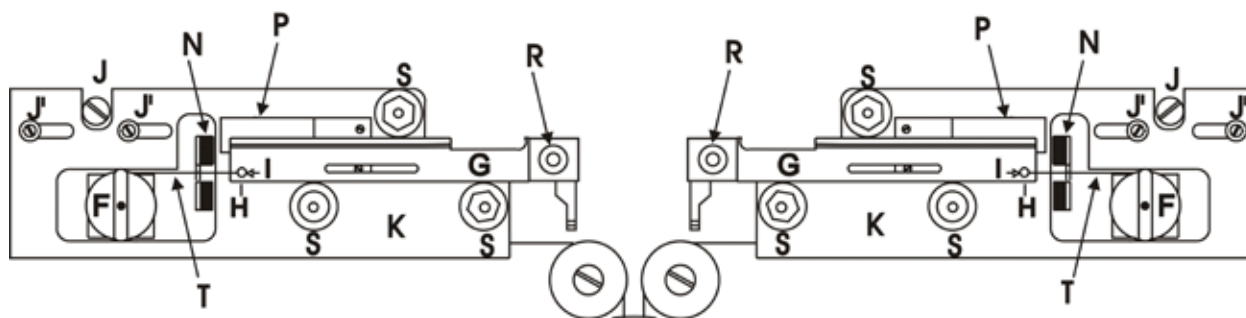

Figure 1-2. Upper Cable Pulley Assembly
| Figure 1-2. Upper Cable Pulley Assembly .....                         | 3 |
This assembly conducts the PULLING CABLES (item **T** in **Figure 1-2**) from the PULLER BARS (**G**) to the centrally located (and concealed) LOWER CABLE PULLEY ASSEMBLY. Note that the UPPER CABLE PULLEY ASSEMBLY is attached to its panel by two screws, in slots (**J'**), and contains a large eccentric adjustment screw (**J**). This eccentric screw is used to adjust cable “tension”. Its use is covered in the maintenance section.
**PANELS, LEFT & RIGHT** (K in Figure 1-2) The panels are the angled surfaces that provide mountings for the PULLER BARS (G) and their BEARINGS (S); the SPRING STOPS (P); the BUMPERS (N); and the UPPER CABLE PULLEY ASSEMBLIES (F). Note the three socket-head cap screws that attach each PANEL to the top (J and J'). These screws are used to align the PULLERS BARS. Their use is covered in Chapter 5 (MAINTENANCE).
**BUMPERS** (N in Figure 1-2) The BUMPER stops the motion of its associated PULLER BAR (G), and prevents impact forces from breaking pipettes.
**SPRING STOPS** (P in Figure 1-2) The SPRING STOPS are one-way catches that prevent pipette tip collision by catching the PULLER BARS (G) as they rebound off the BUMPERS (N).
**PULLER BARS** (G in Figure 1-2) This assembly consists of the puller bar, glass clamp, clamping knob (R) and cable retaining screw (H). The puller bar is made of mild steel and coated with a controlled thickness of hard chrome. Glass is loaded into the groove near the tip of the puller bar and is held in position by tightening down the clamping knob (R). The cable retaining screw (H) holds the cable in a shallow groove (I) at the end of the puller bar, and forms the “resistance” against which the cable ends pull.
- V-BEARINGS** (S in Figure 1-2) These bearings are the guides for PULLER BAR motion. They are made of stainless steel and should NEVER be oiled (see maintenance section). These bearings are mounted on stainless steel bushings, one of which is round with the other two being hexagonal. The hexagonal bushings are used to adjust position and ease of travel of the PULLER BARS (see Chapter 5 (MAINTENANCE)). Note that the V-bearings MUST have a significant amount of play for the puller bars. Under no circumstances must the play be eliminated, as this may irreversibly damage the puller bars!
- PULL CABLE** (T in Figure 1-2) This cable conducts the pulling force of the solenoid to the PULLER BARS (G) via the UPPER (F) AND LOWER PULLEY ASSEMBLIES. It is made of flexible metal with a nylon coating. Never pinch or distort the cable. The cable is terminated with crimped-on clamps or “swages”. Note that the cable is mechanically connected to the puller bar by the cable retaining screw (H), not by the swage. Should the swage point out of the plane of the puller bar, this indicates that the retaining screw may have become loose, and the puller cable tension needs to be checked (see Chapter 5 MAINTENANCE).